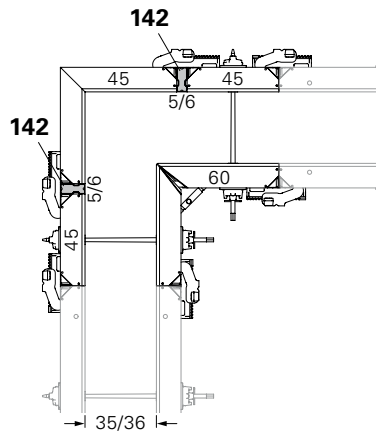

Fig. C2.07
- Wall thickness 35 + 36 cm: Fig. C2.07